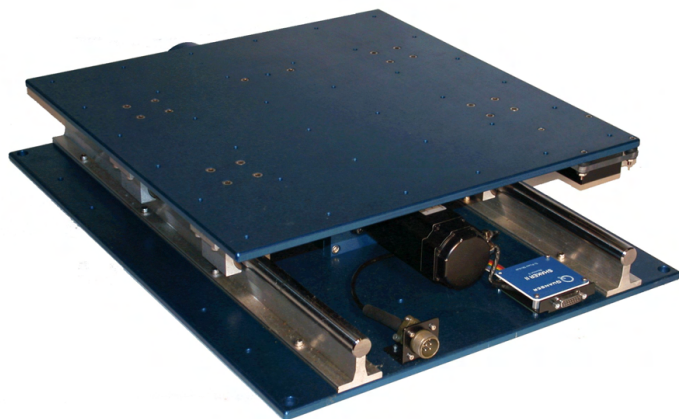

Figure 1: Shake Table II system.
The Quanser Shake Table II shown in Figure 1 is an instructional shake table device that was originally developed for the *University Consortium on Instructional Shake Tables* (UCIST). It can be used to teach structural dynamics, vibration isolation, feedback control, and various other topics for mechanical, aerospace, and civil engineers.
- ✓ **Shake Table II Plant:** Quanser Shake Table II, as shown in Figure 1 above.